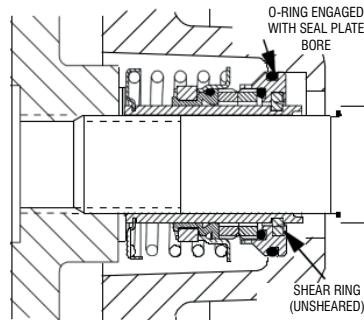

Figure 5. Seal Partially Installed
Clean and inspect the impeller as described in Impeller Installation and Adjustment. Install the full set of impeller shims (39) provided with the seal, and screw the impeller onto the shaft until it is seated against the seal (see Figure 5).